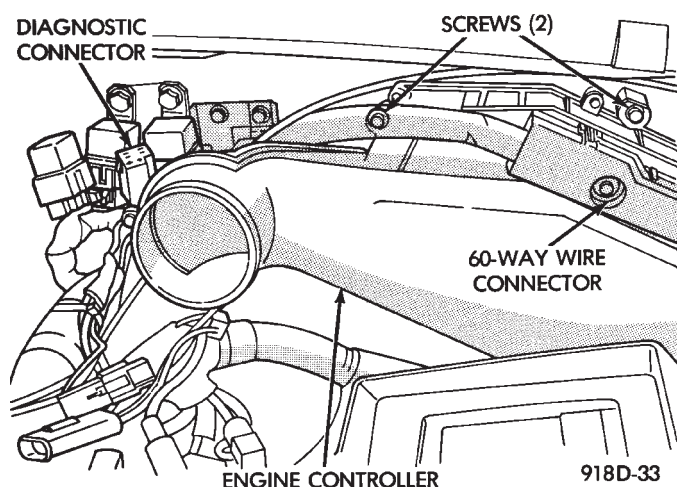

Fig. 16 Engine Controller Removal
- (1) Remove air cleaner duct from engine controller.
- (2) Remove battery.
- (3) Remove engine controller mounting screws (Fig. 16).
(4) Remove 60 way wiring connector from module and remove module.